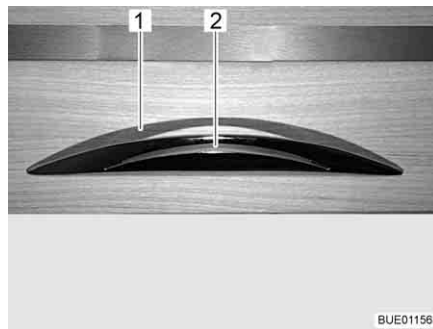

Fig. 47 Furniture flap with release handle
- Press the release handle (Fig. 47,2) and hold it down.
- Pull the release handle (Fig. 47,1) until the furniture flap is open.